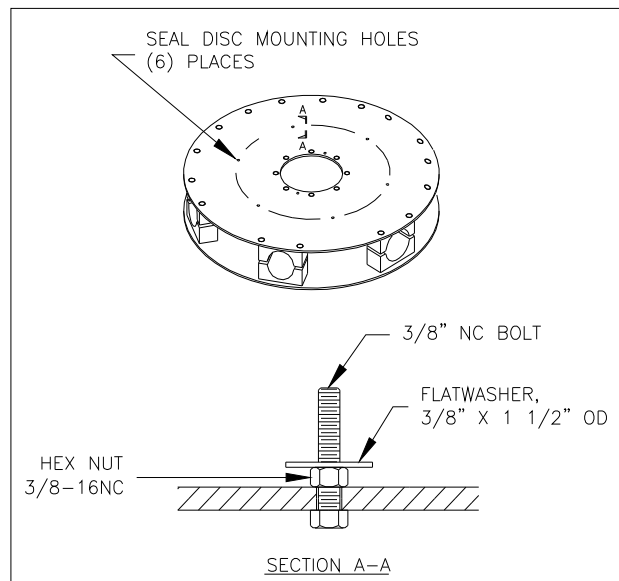

Figure 6a
Install 3/8" NC bolts at six (6) places on top hub plate (See Figure 6a & 6b). Threaded portion of bolts must be pointing up to mount seal disc. Install lock washer, nut, and flat washer on each bolt. Tighten 3/8" NC nuts to 15 ft-lb (lubricated) and 20 ft-lb (dry).